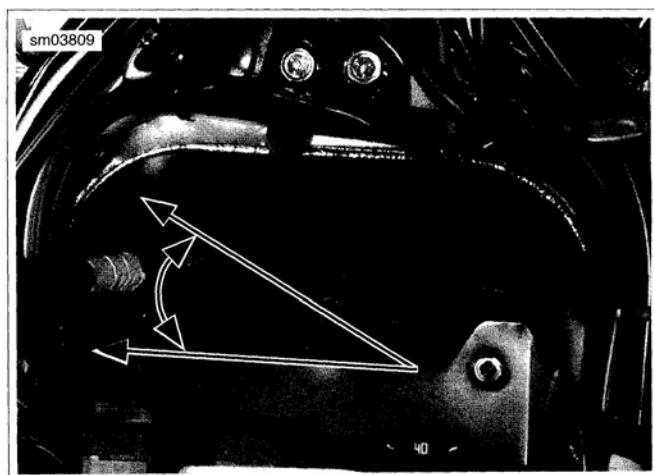

Figure 1-62. Positive Battery Cable Routing
1. See Figure 1-62. Position positive battery cable properly at starter. Cable end must face 35° +/-10° forward from left side of vehicle.